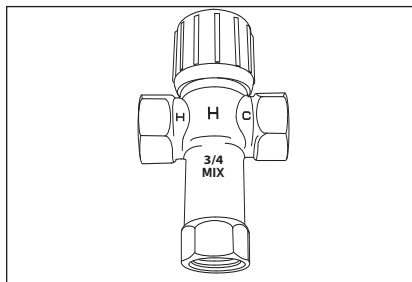

Figure 7 - Thermostatic Mixing Valves installed at each point-of-use can help avoid scalding.
- Point-of-use Thermostatic Mixing Valves (Figure 7 on page 10)
Install Thermostatic Mixing Valves (Figure 7) to regulate the temperature of the water supplied to each point-of-use (for example, the kitchen sink, bathroom sink, bath and shower). Consult the valve manufacturer’s instructions or a qualified person.